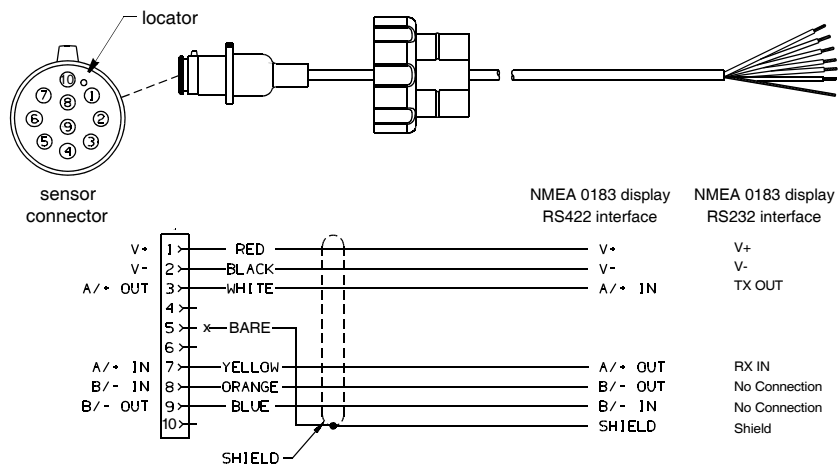

Figure 5. NMEA 0183 Sensor Cable
- **No connector**—If your sensor cable does not have a connector on the display end, it must be hard wired. Refer to the owner's manual that came with your display and connect the colored wires as shown in the table below and Figure 5.
5. Being sure the power supply is OFF, connect the wires to the display (see Figure 5).